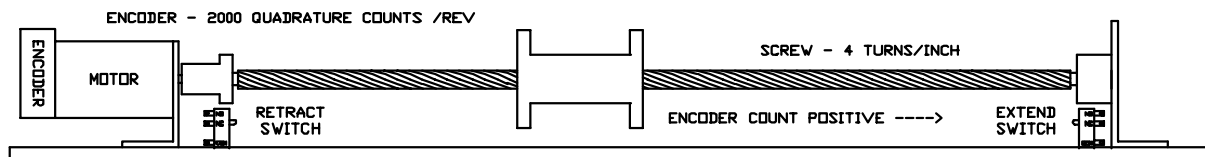

Figure 4.
Figure 4 illustrates a rudimentary mechanical system which the S-Series controller could operate and to which the programming examples that follow will refer. It consists of a motor / encoder combination driving a 4 pitch lead screw and nut with limit switches and hard stops at both ends. The encoder provides 2000 quadrature counts per revolution giving 8000 counts per inch of linear travel at the nut. It also gives an index pulse once per revolution. There is 14.375 inches of travel from hard stop to hard stop. A positive relative motion will cause the nut to extend away from the motor and a negative relative motion will cause the nut to retract toward the motor. The normally open (NO) and common (COM) leads on the "Retract Switch" are connected to the Limit- and Common pins of the controller. The normally open (NO) and common (COM) leads on the "Extend Switch" are connected to Limit+ and Common pins. The NO lead on the "Retract Switch" is also connected to the Home input.